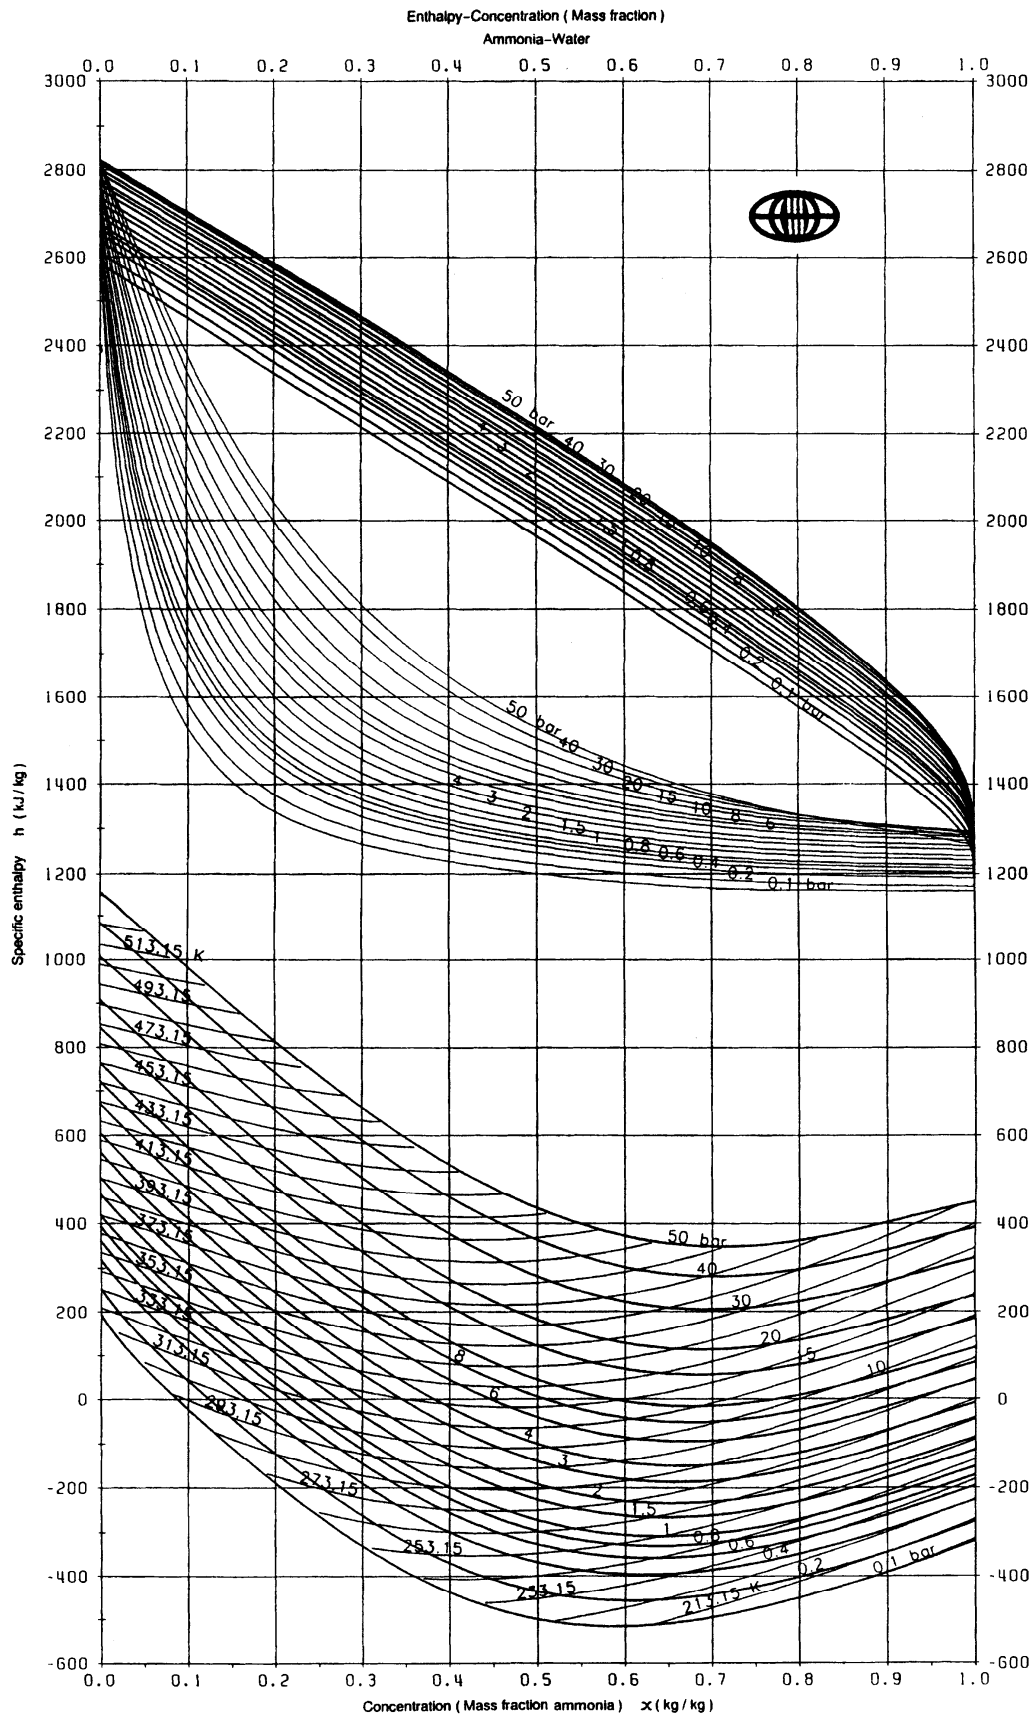

Fig.1 Enthalpy-concentration diagram for aqueous ammonia
- (1) In the desorber of a $\text{NH}_3/\text{H}_2\text{O}$ absorption system the rich solution enters at a temperature of 150°C and a mass fraction of 0.3. The vapor produced in this desorber is in equilibrium with the incoming liquid. (Please refer to Fig.1)